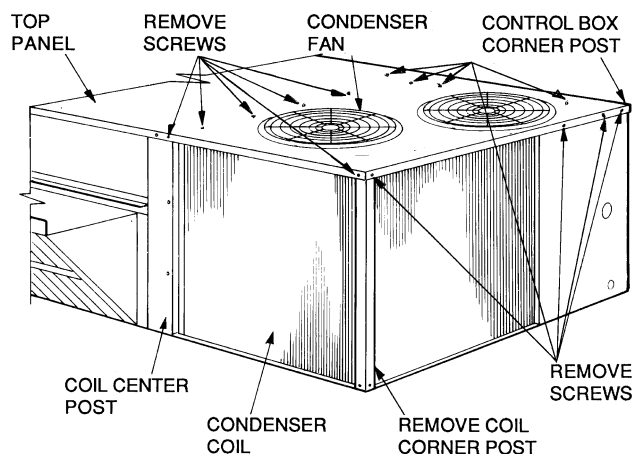
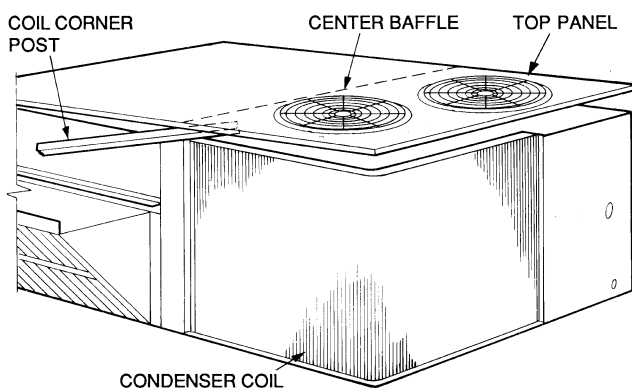

Fig. 26 — Cleaning Condenser Coil
Fig. 27 — Propping Up Top Panel
3. Remove condenser coil corner post. See Fig. 26. To hold top panel open, place coil corner post between top panel and center post. See Fig. 27.